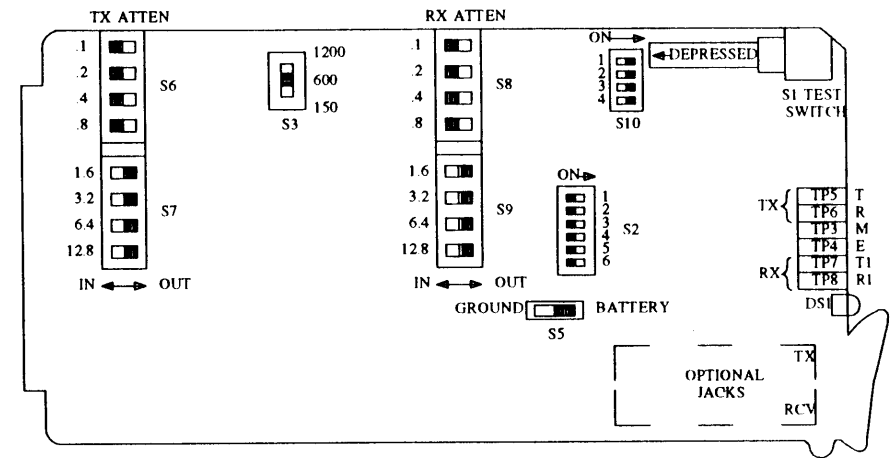

Figure 13-18. 30044-002 4-Wire E&M Channel Unit Switch Locations
- b. For No. 30044-002 (figure 13-18), insert a 1004-HZ signal at the proper system level into the channel. Connect a dB meter (600-ohm bridged) to TP5 and TP6. Set switches on S8 and S9 to obtain a meter reading of +84.
- b. For No. 30044-002 (figure 13-18), connect a dB meter (600-ohm bridged) to TP7 and TP8. From a distant end transmitter, transmit a 1004-Hz signal at the proper system level. Set the switches on S8 and S9 to achieve the proper system level.